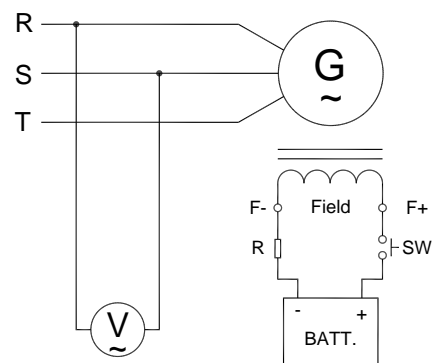

Figure 2 Manual Field Flash
- 5.1 Installation Notice : (Refer to Figure 2 and 4).
- 6.2.1 Shut down generator, disconnect the wiring between AVR and generator then flash the field. Flashing duration = 3 seconds. (See wiring in Figure 2)
- 6.2.2 Restart generator and measure the residual voltage by AC Voltmeter, if it is still less than 5 Vac, repeat the previous process, after several times, the residual voltage still cannot be built, Kutai EB500 is strongly recommended, see Figure 2.